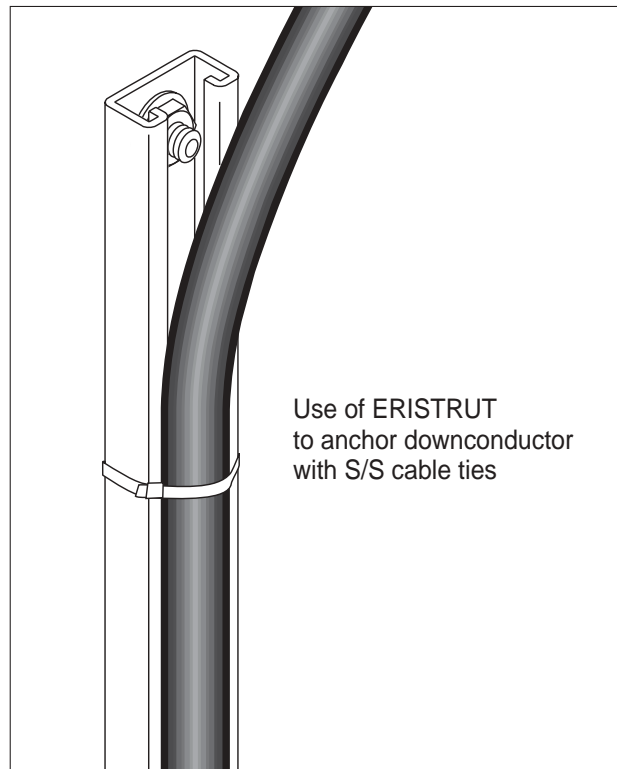

Figure 11: Downconductor anchored to strut.
- Use of ERICO ERISTRUT or other similar strut systems are recommended where suitable. (See figure 11).